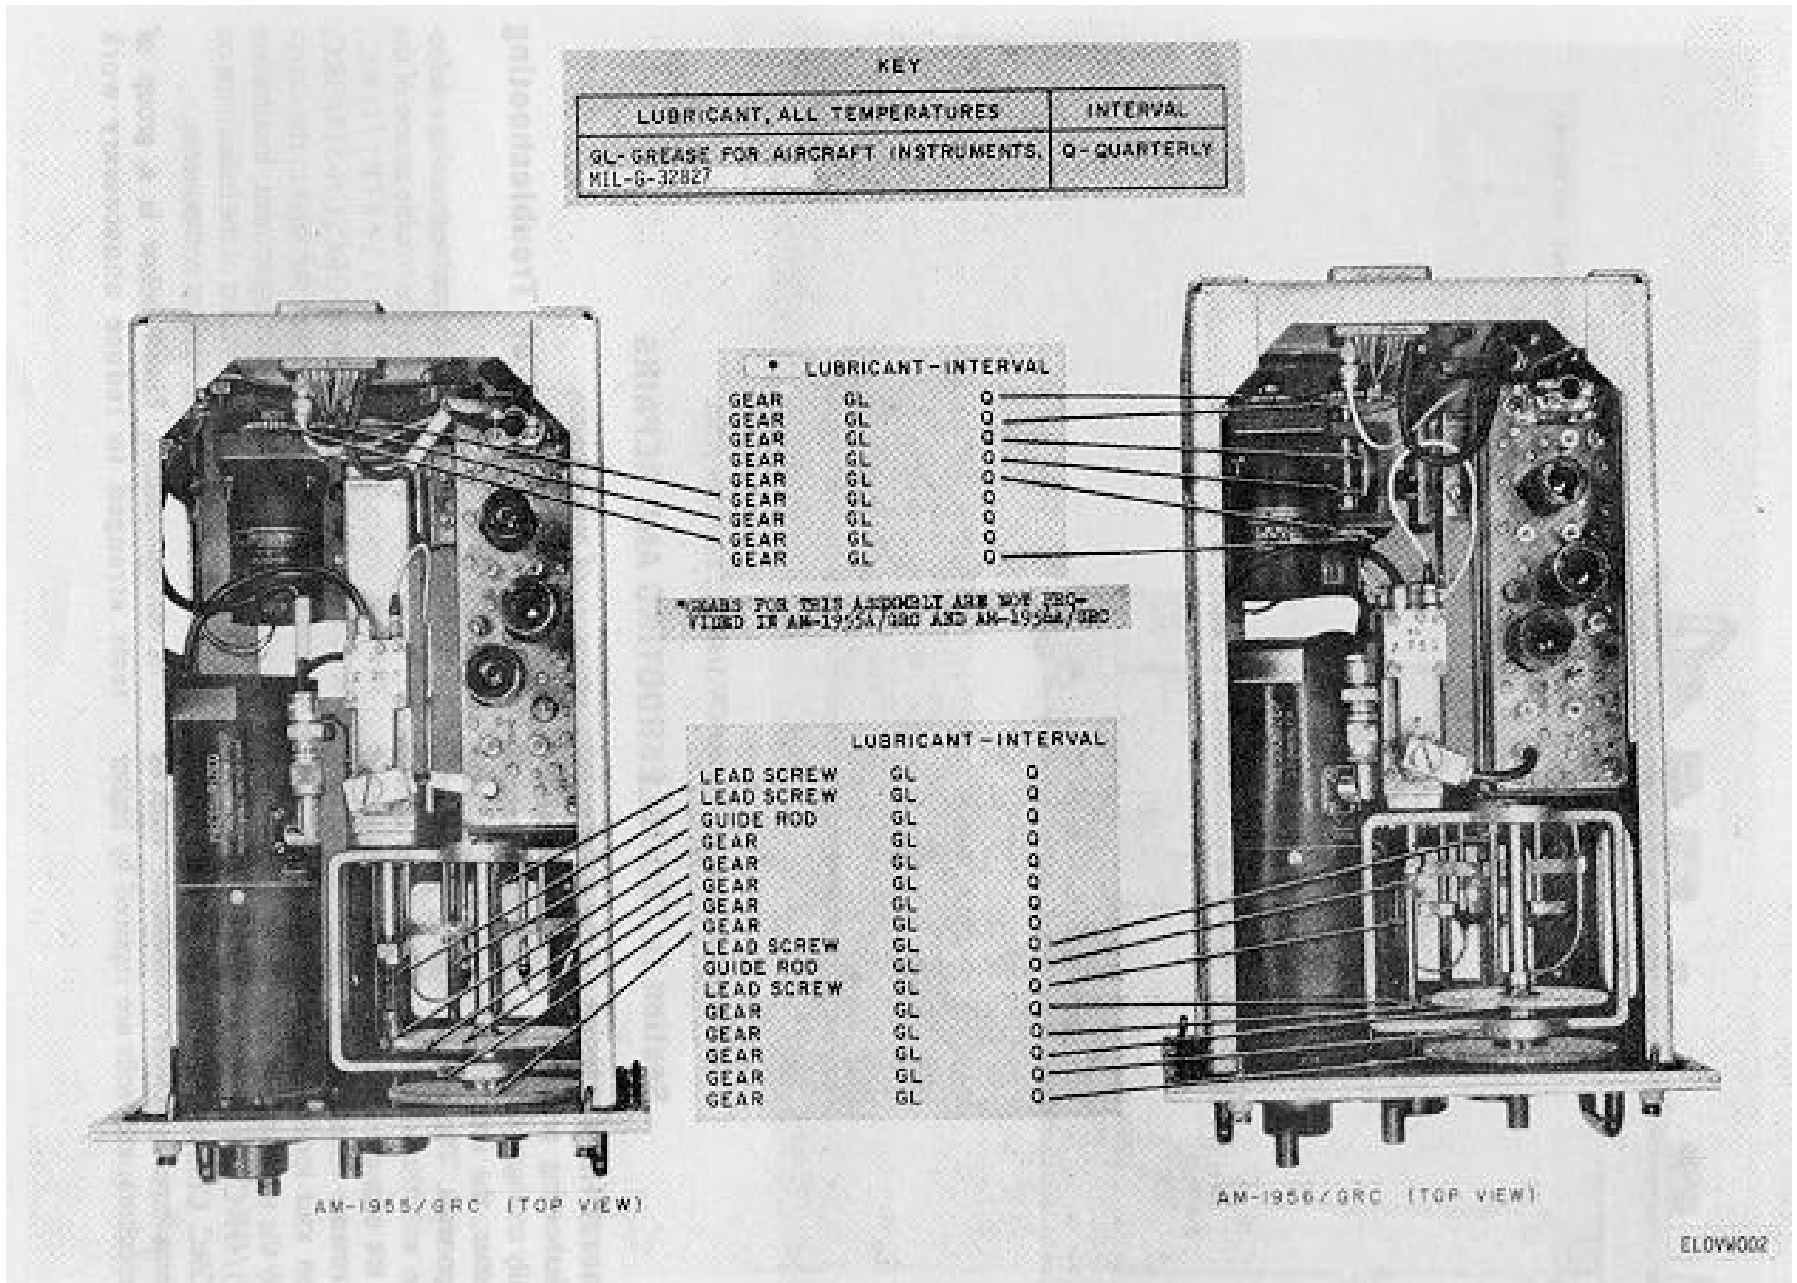

Figure 5-2. Amplifier-Oscillators AM-1955(\*)/GRC and AM-1956(\*)/GRC, lubrication points.
b. Amplifier-Converters AM-1953(\*)/GRC and AM-1956(\*)/GRC. Loosen the front panel mounting screws on the AM-1955(\*)/GRC or the AM-1956(\*)/GRC and remove it from the R-1148(P3)/GRC or the R-1381(\*)/GRC. Locate all points to be lubricated and clean them with a brush dipped in cleaning compound (fig. 5-2). Apply a light film of grease (GL) with a clean brush to the points indicated. Replace the AM-1955(\*)/GRC or the AM-1956(\*)/GRC and tighten the front panel mounting screws.